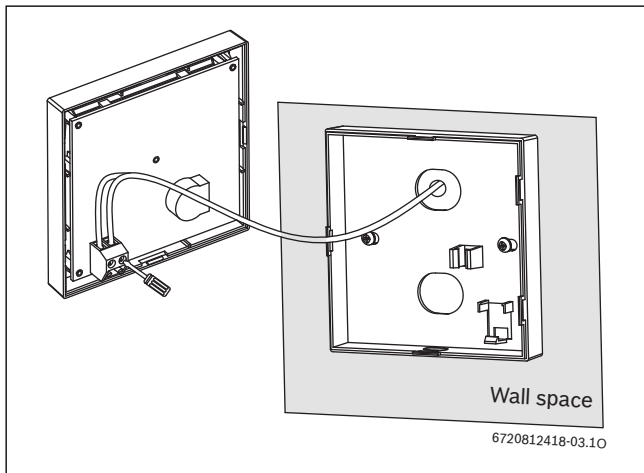

Fig. 6
- Use a screwdriver to connect OT cable to product connector base, as shown in Fig. 6 (Regardless of cable positive and negative electrodes).